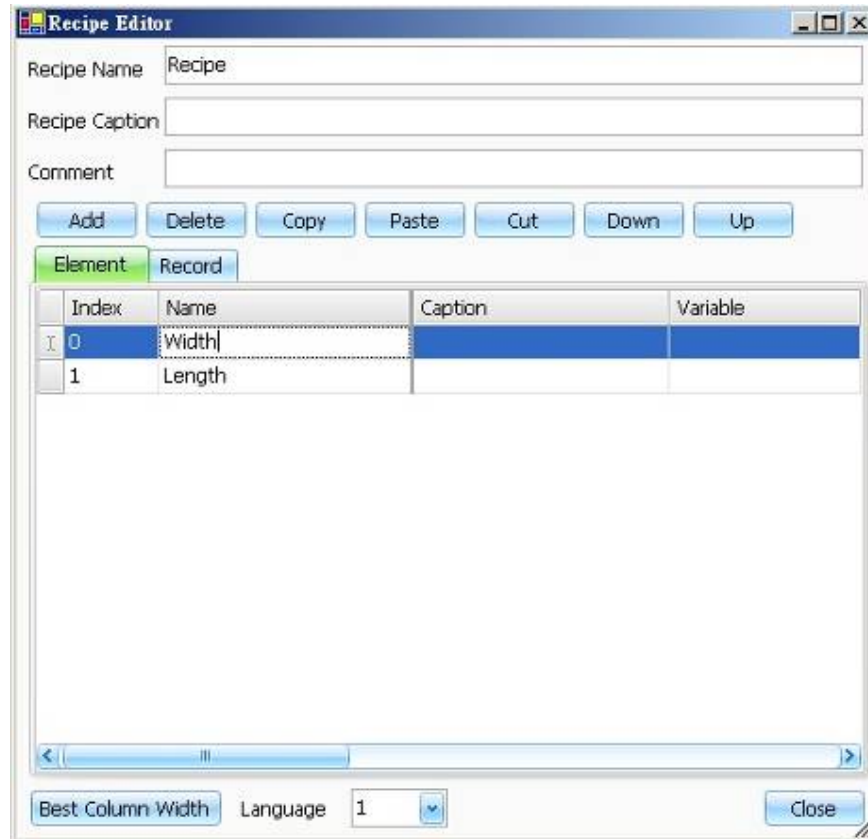

Figure 8.4.2
(2) The element setting as figure 8.4.2 below.